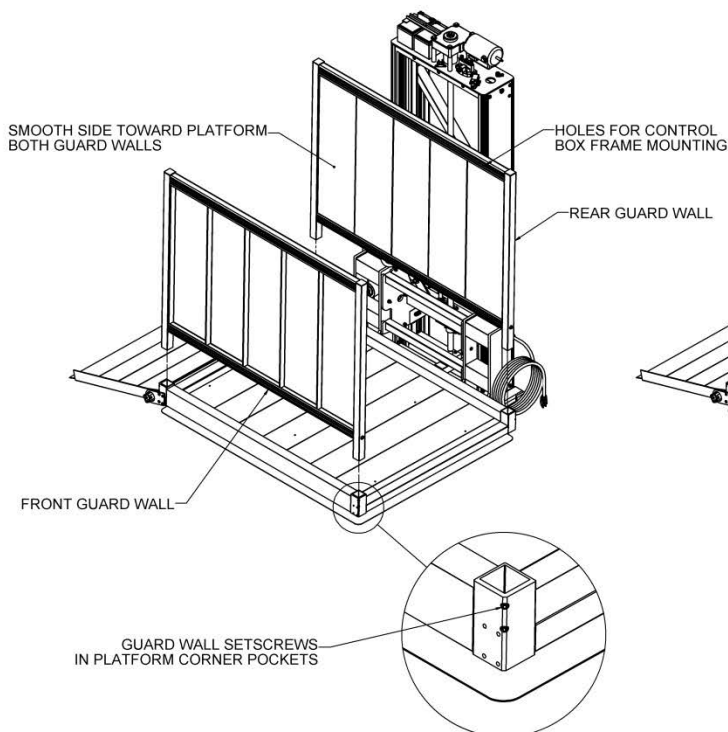

FIG. 4.6
9. Install the guard walls with smooth side toward inside of platform as shown (FIG. 4.6).